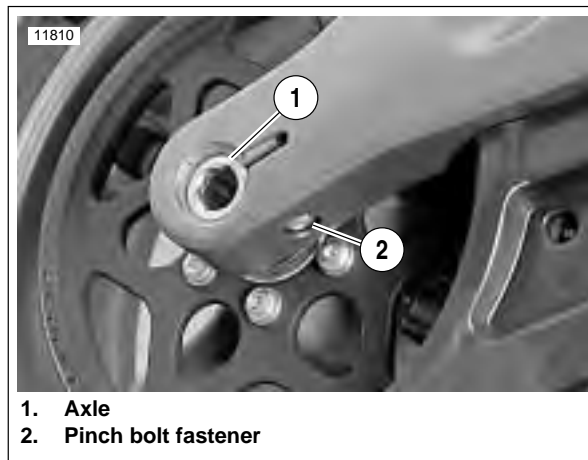

Figure 2-81. Rear Wheel Mounting, Right Side
1. See Figure 2-81. Loosen rear axle pinch fastener (2).
2. Loosen rear axle (1) approximately 15 rotations to allow partial tension to be removed from rear drive system.